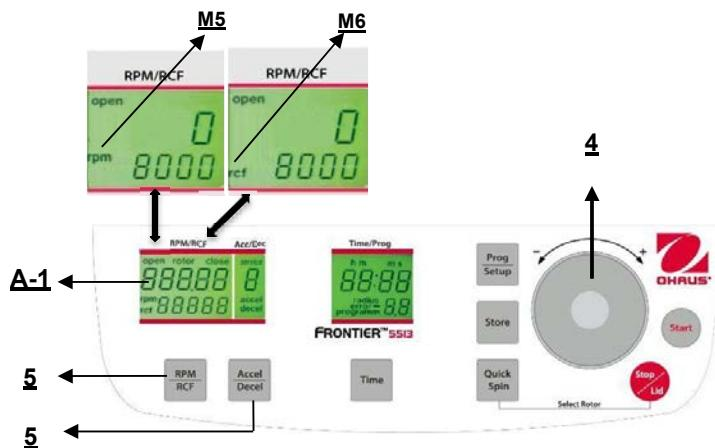

Figure. 13
This pre-selection is activated through the key "**RPM/RCF**" (5) (refer to figure 13 below). By pressing the key once the word "**rpm**" (M5) flashes. By pressing the key twice, the pre-selection of the centrifugal forces can be selected. Then the flashing word "**rcf**" (M6) appears. You can set the desired values with the adjusting dial (1). In the display (A-1) the regulated value is shown permanently, before, during and after the run.